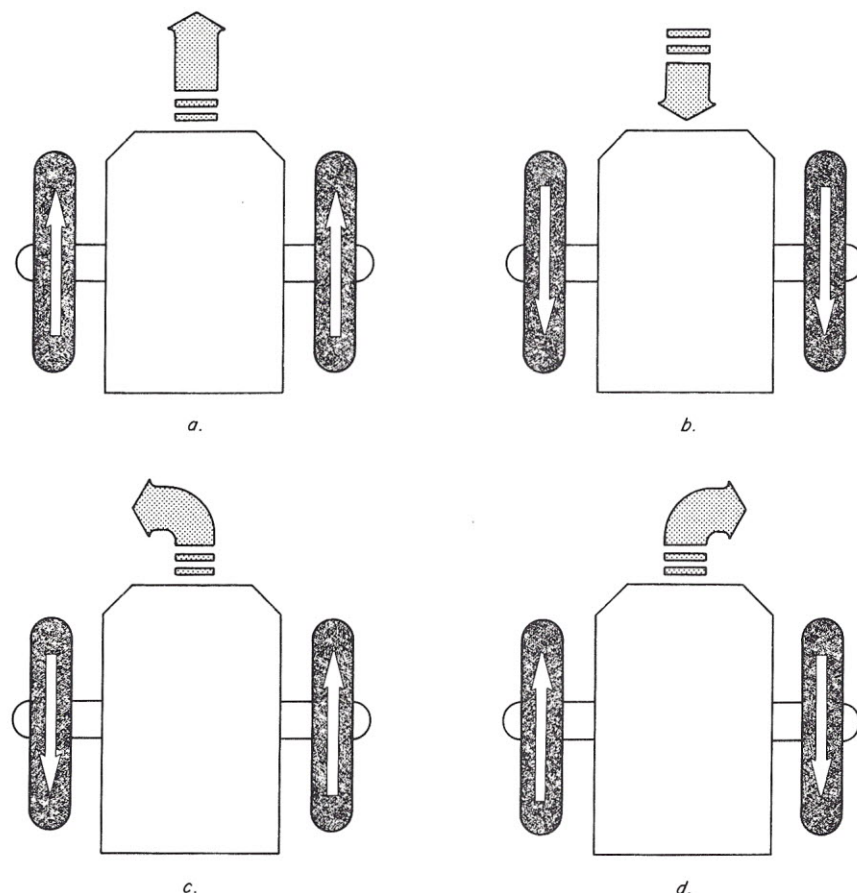

Figure 1: Motion mechanics of two-wheeled vehicle. Notice how opposite rotations of wheels turn the body.
**Two Wheels are Better than One.** Looking at figure 1, it can be seen that a two-wheeled vehicle with both wheels opposite each other can satisfy all the requirements for positional control without the need for a separate steering motor. Let's consider each example. In